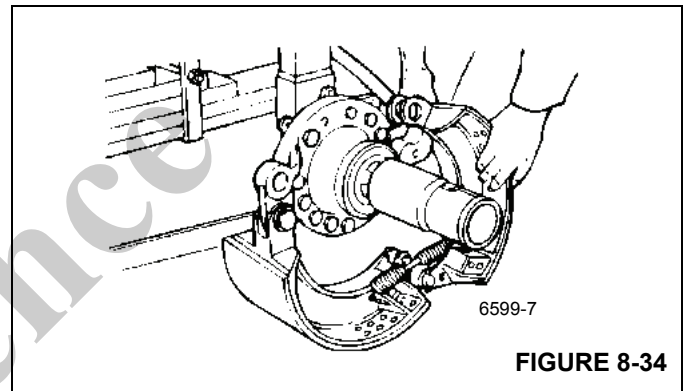

FIGURE 8-34
4. Install a new shoe return spring onto the brake shoe (Figure 8-34). Place the upper brake shoe into position over the spider. Repeat steps 1 and 2.